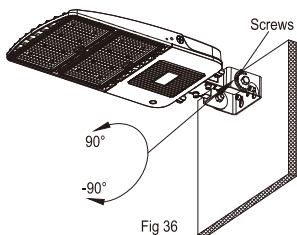

Fig 36
Step 7 .Use a wrench to loosen the adjustment Angle screw, and the Angle adjustment range "-90°-90°", as shown in Fig.36